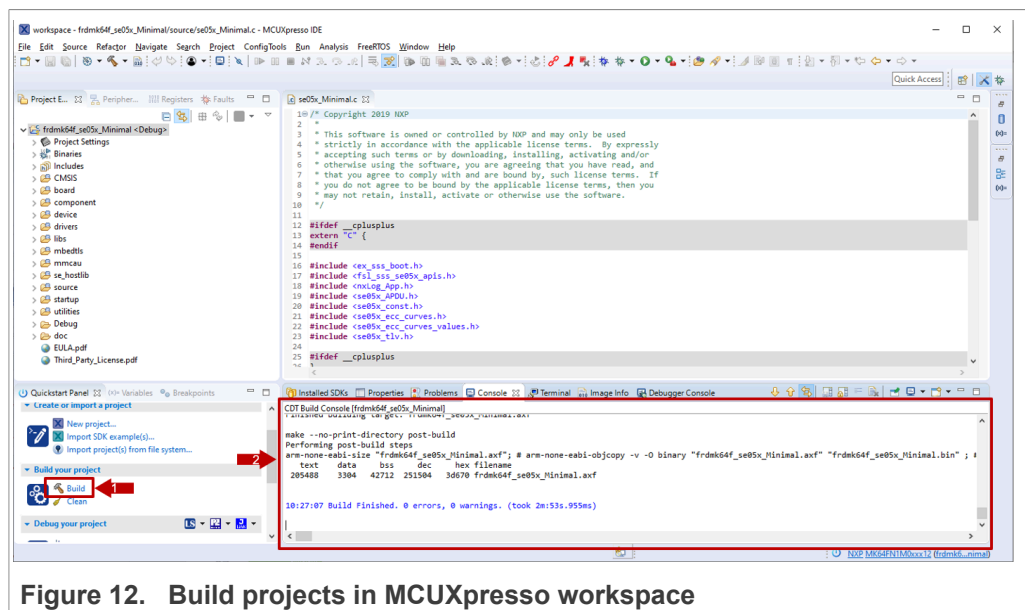

Figure 12. Build projects in MCUXpresso workspace
4. Go to the MCUXpresso Quickstart Panel and click *Build* button as shown in Figure 12. Wait a few seconds and check that the build process has finished successfully in the MCUXpresso console window.